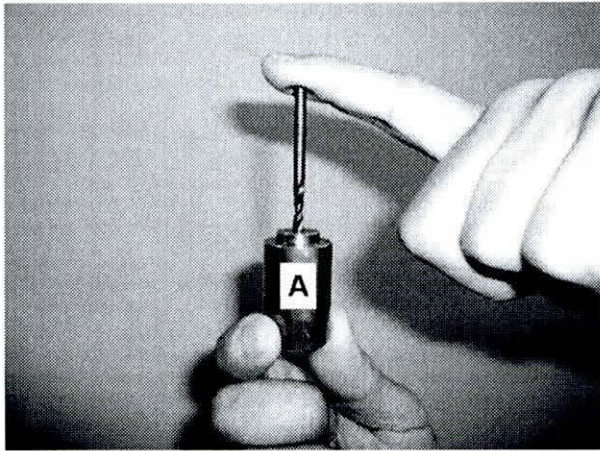

Figure 7
3. Insert drill bit from parts kit into guide sleeve (A, Figures 7, 8) up to end stop.